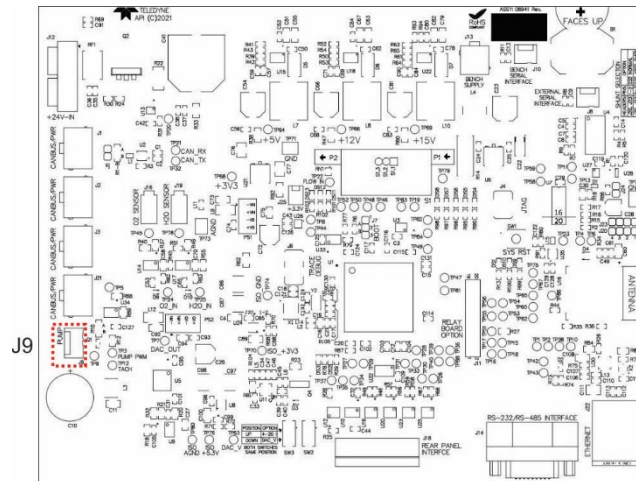

Figure 7-2. J9 Pump Connector on Mainboard
3. Unplug the pump power connector from the mainboard PCA at connector J9 (Figure 7-2).